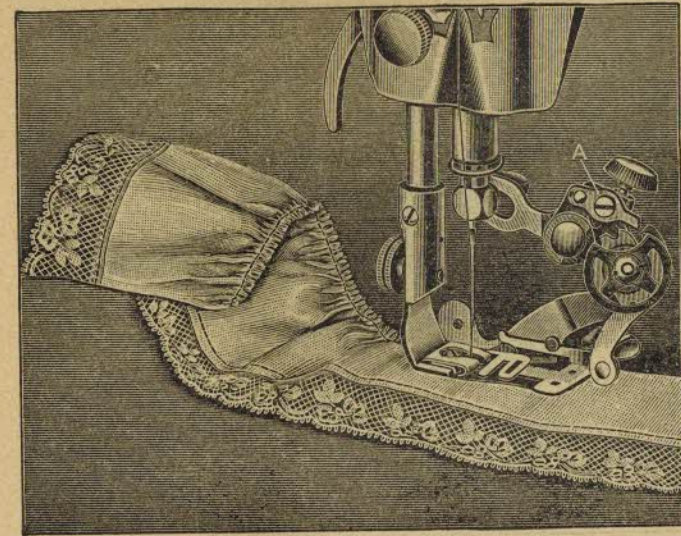

FIG. 15
Remove the presser foot and attach the ruffler in its place, connecting the lever with the needle clamp, as shown in Fig. 15.
To make a stitch in each ruffle the screw (A) must be turned over as far as possible to the left. See Fig. 15.